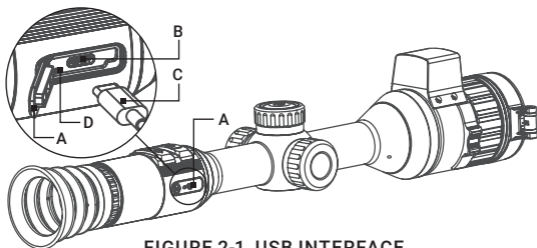

FIGURE 2-1. USB INTERFACE
1. Open the USB interface cover (Figure 2-1, A).